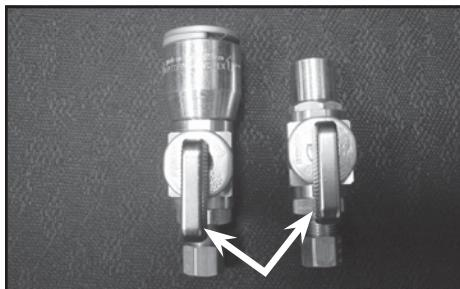
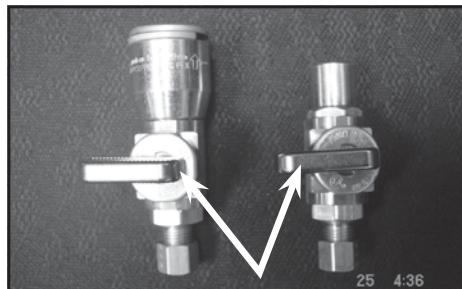

Fig. 1A (Valve Open)
Fig. 1B (Valve Closed)
- COPPER PIPE PLUMBING:** Using emery cloth, clean both ends of the copper pipes and apply flux to "all" surfaces to be soldered including the inside of the tee. Follow manufacturer's installation instructions provided with the $\frac{1}{2}$ " Male Solder x $\frac{1}{4}$ " OD Compression Fitting Shut Off Valve (B).
- FLEXIBLE PIPE PLUMBING:** Follow manufacturer's installation instructions provided with the $\frac{1}{2}$ " x $\frac{1}{2}$ " x $\frac{1}{2}$ " Quick-Grip Tee (D) and $\frac{1}{2}$ " Quick-Grip x $\frac{1}{4}$ " OD Compression Fitting Shut Off Valve (E).
- Close the newly installed shut-off valve (See Fig. 1A and Fig. 1B) and slowly re-open the cold water supply line and check for leaks. If leaks are detected, immediately close the water supply and repair any/all leaks. If no leaks are detected, proceed to step 7.